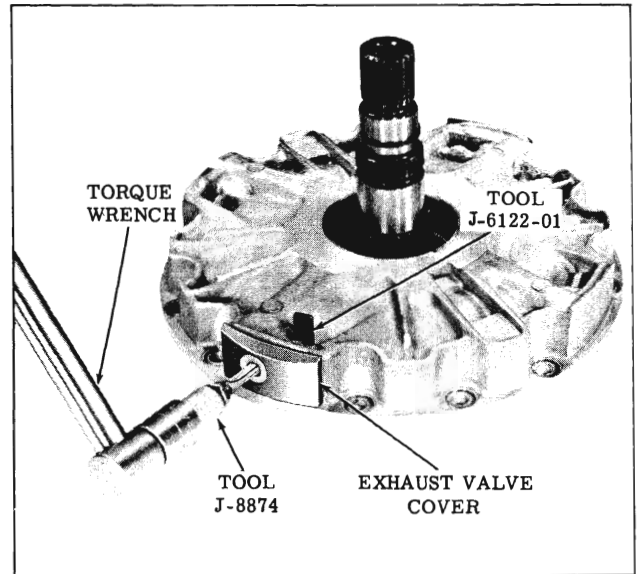

Fig. 3-265 Installing Exhaust Valve Cover
4. Replace torus cover exhaust valve covers, and new gaskets with attaching screw and Tool J-8874. Torque to 20-25 ft. lbs. (Fig. 3-265)